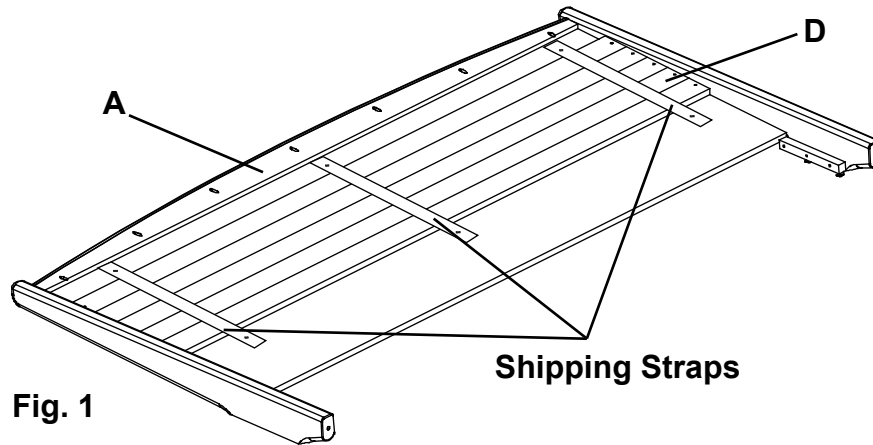

Fig. 1
1. Remove the Slats (D) from the back of the Headboard (A) and place them off to the side. See Figure 1.